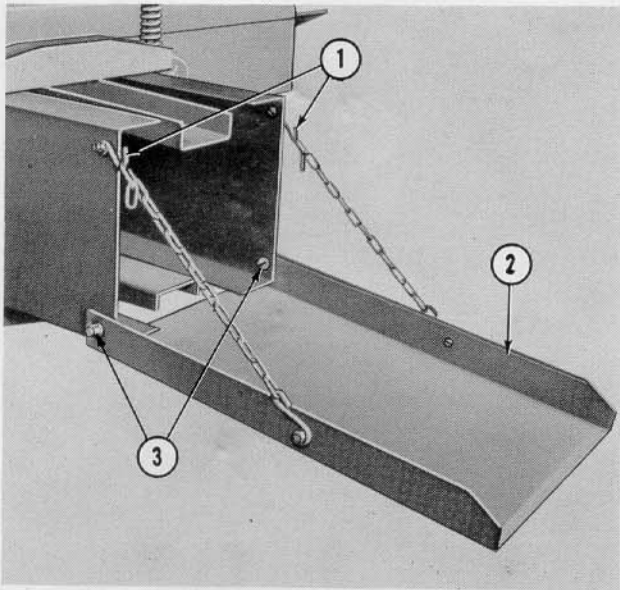

Figure 49
1. On both engine and P.T.O. driven balers, attach the bale chute (2), Figure 49, to the rear of the bale chamber with the two $\frac{1}{2}$ " x $1\frac{1}{4}$ " round head screws, bushings, flat washers, lockwashers and nuts (3) located on the baler.
2. Set the bale chute at the desired angle and secure it by attaching the chains to the hooks (1), Figure 49, on the bale chamber.